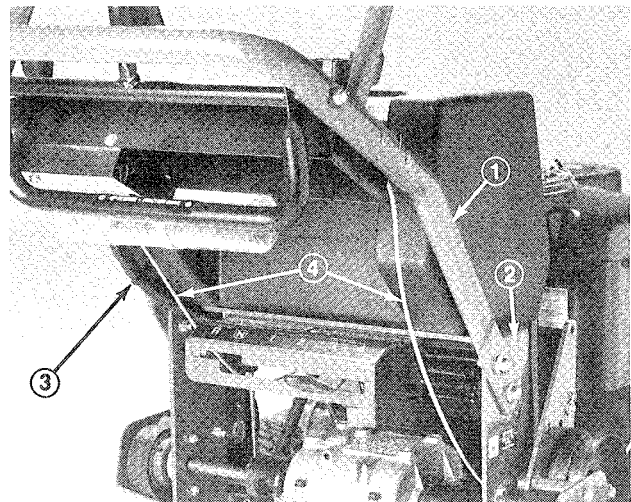

Figure 4
1. Align upper handle mounting holes with desired mounting holes in frame (upper or lower set of holes) and secure each side with (2) 3/8 - 16 x 1" lg. flange capscrews and flange nuts (Fig. 4). Torque capscrews to 23-27 ft. - lbs. Route cables and wire harness inside of frame (Fig. 4).